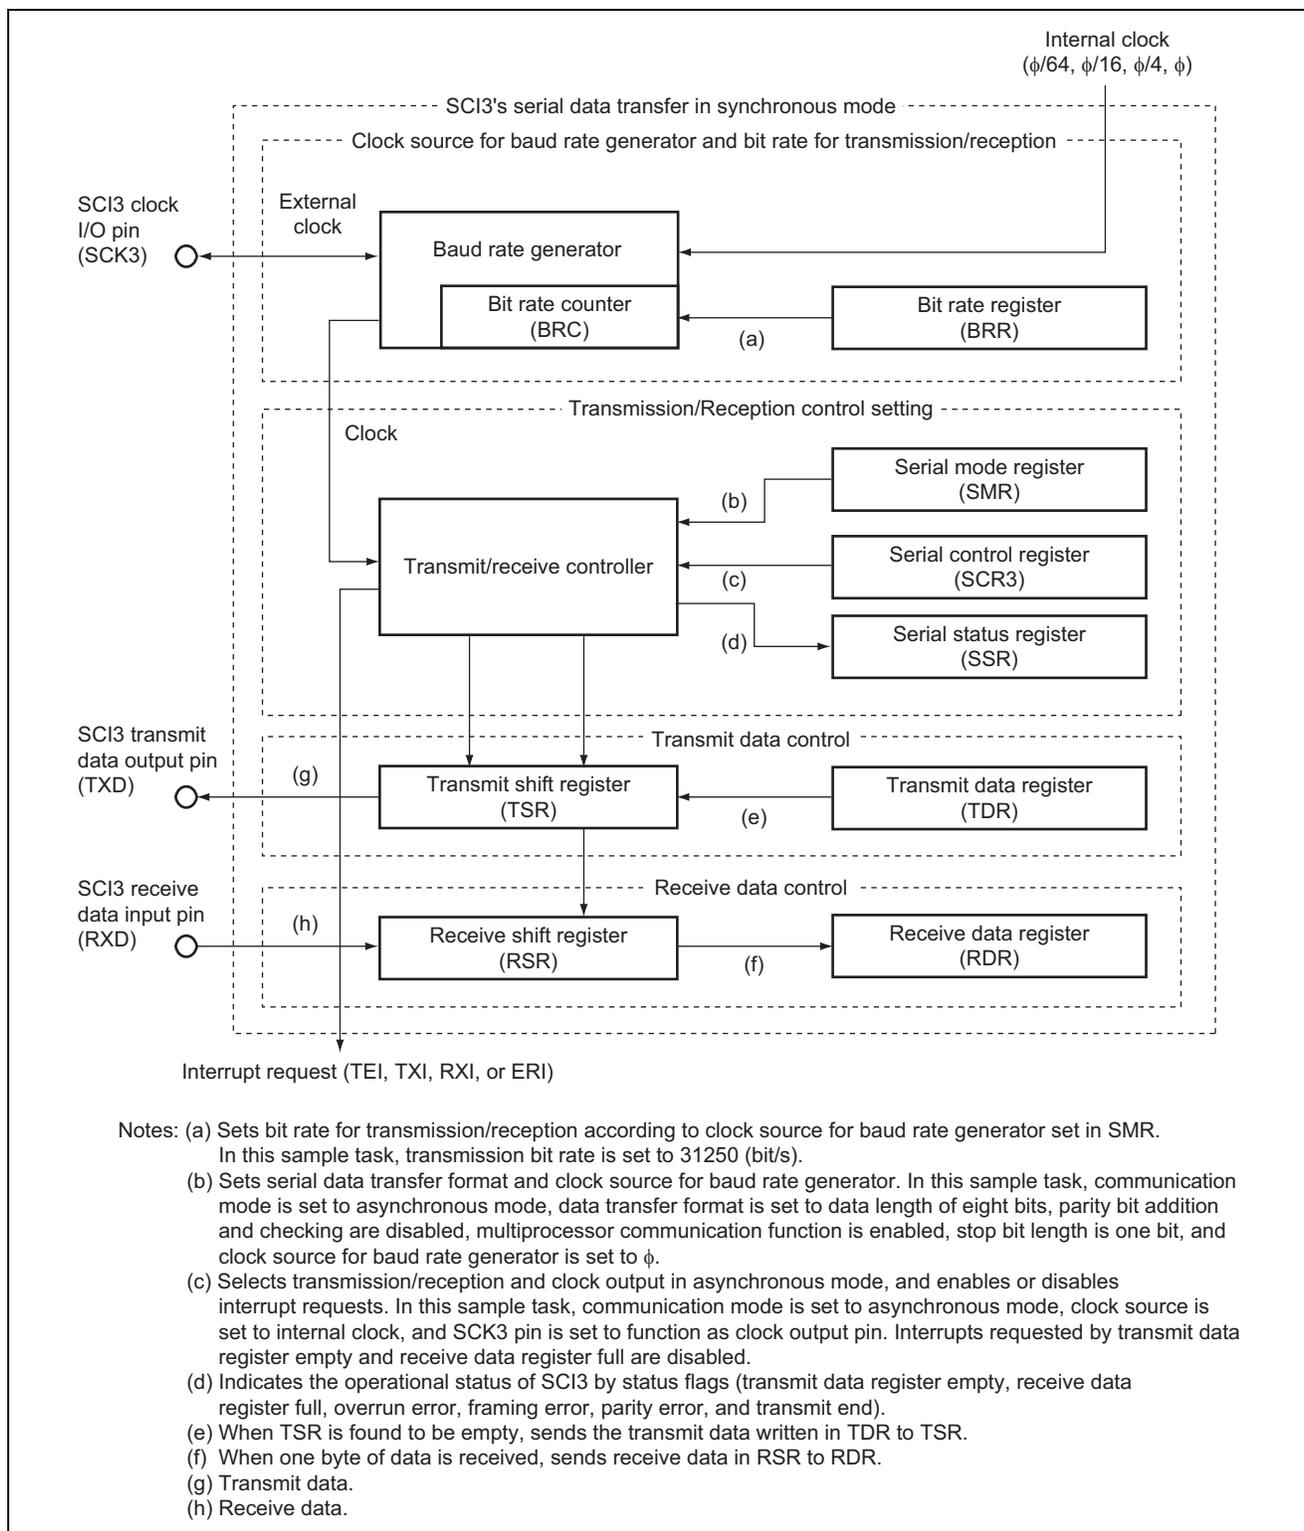

Figure 3 Multiprocessor Communication Function
1. In this sample task, transmission by multiprocessor communication is performed via the serial communication interface (SCI). Figure 3 is a block diagram of multiprocessor communication. The elements of the block diagram are described below.